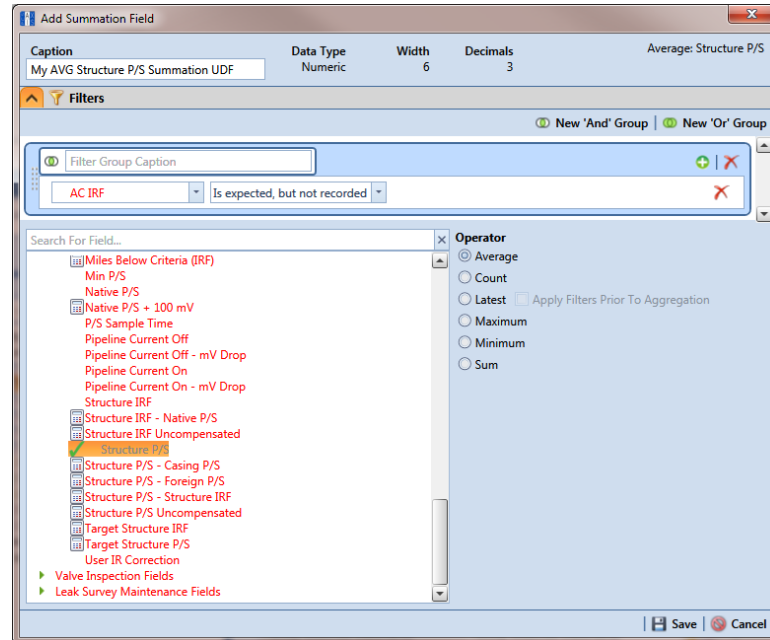

Figure 3-60. New 'And' Filter
- b** Click  **New 'And' Group** to open the filter properties group box (Figure 3-60, page 109).